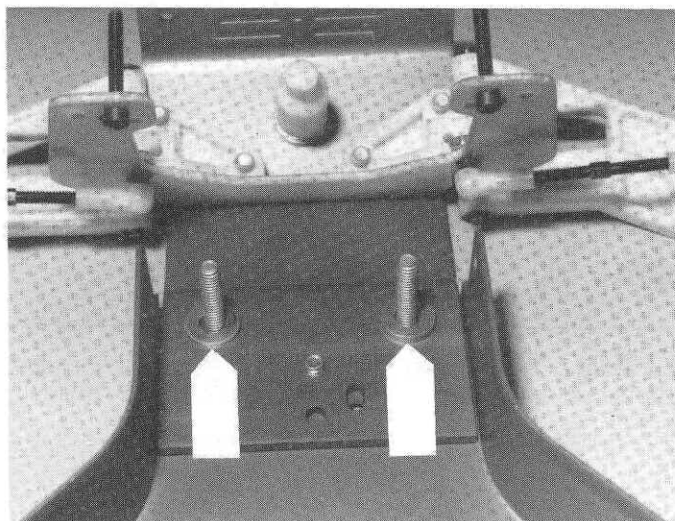

Fig. 22
- ☐ **Fig. 22** Take the 2 thick washers out of the same bag, and put them on the 2 screws, as shown.